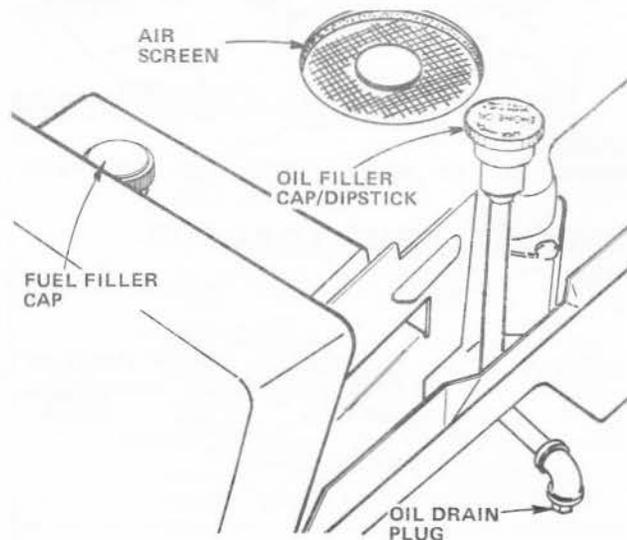

FIGURE 25
- a. Drain Oil with Engine warm. Unscrew Oil Drain Plug (Fig. 25) and remove Dipstick. Catch Oil in a suitable container. Replace Plug.
Air Screen (Fig. 25) must be kept free of dirt and chaff to prevent Engine damage from overheating.